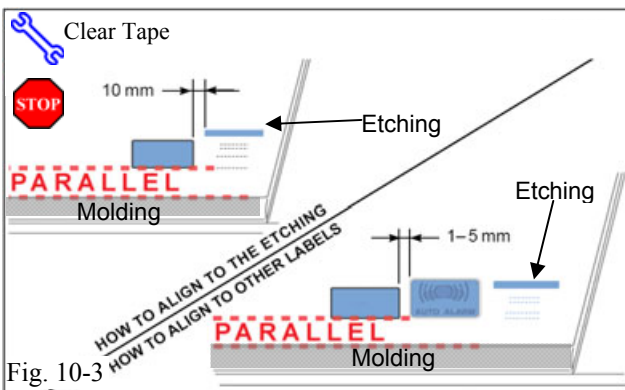

Fig. 10-3
- (g) Attach the Label as shown. (Fig. 10-3)
STOP NOTE: Make sure to Align according to Etching or Other Label. (Fig. 10-3)